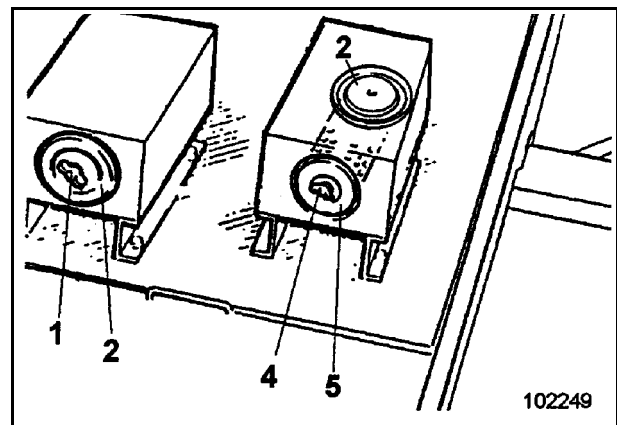

Fig. 3-42:
- ➔ Remove main filter element (5, Fig. 3-42:) as described above.